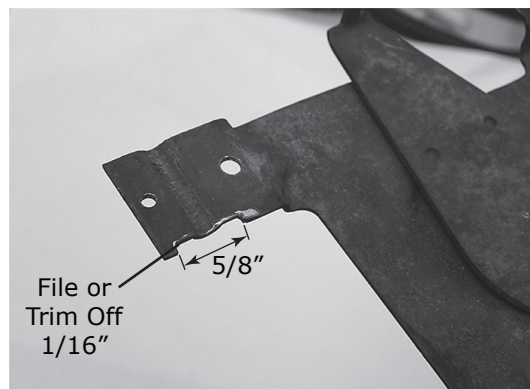

Figure 3
13. Where the original cables were attached, trim off the mode and temperature tabs approximately $1/16"$ x $5/8"$ so the converter barrel fits in this area (See Figures 3 & 3a, below).